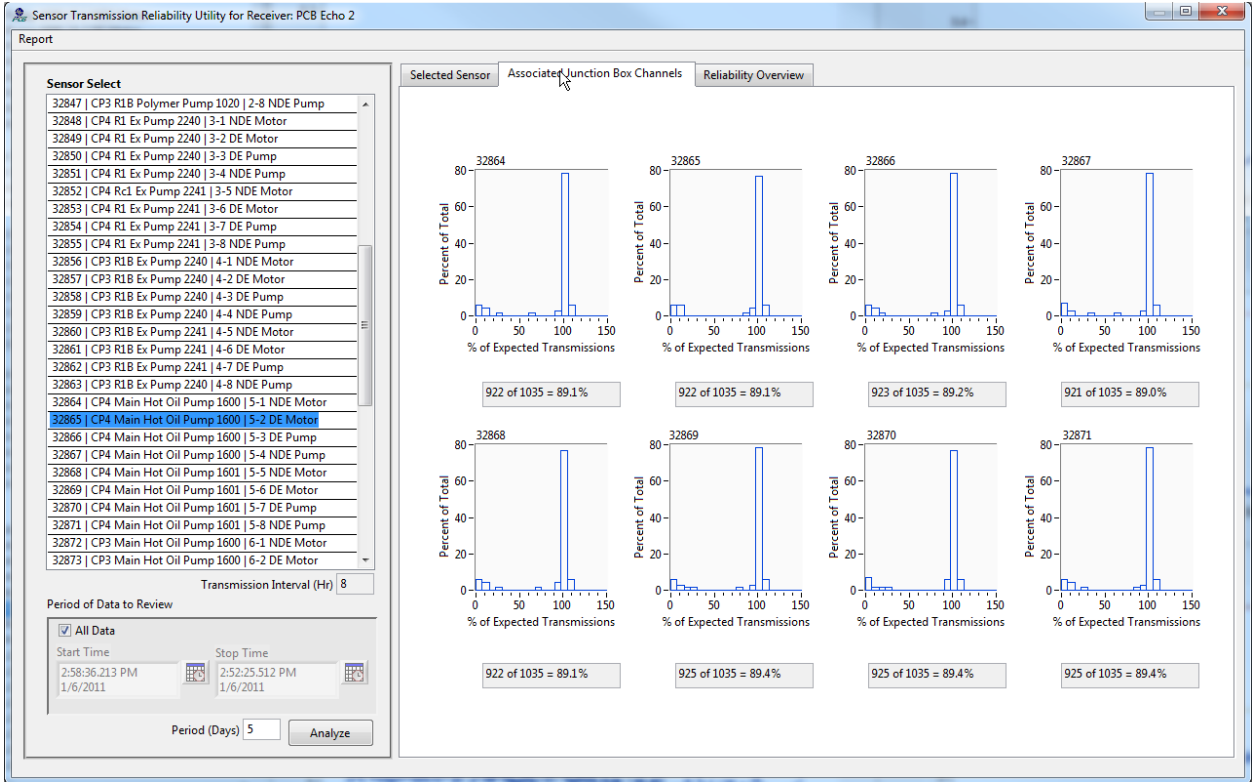

Figure 88 – Echo[®] Sensor Transmission Reliability Utility – Associated Junction Box Channels Tab
- **Associated Junction Box Channels Tab** (Figure 88) – This tab is only displayed if the sensor being analyzed is a junction box channel. This tab contains histograms and the overall transmission statistic for all channels on the selected sensor junction box. This is the same data that is shown for the selected sensor on the bottom graph of the **Selected Sensor** tab